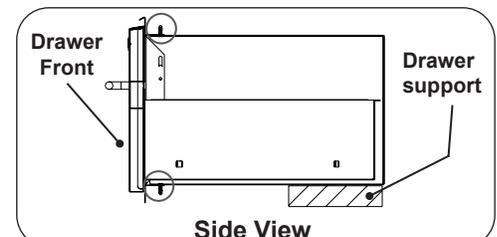

Fig. 2-6 Drawer Installation (Side View)
1. In order to properly support the weight of your drawer, it is necessary to provide a secure, level surface in the rear of the unit (see Fig 2-6). This may be accomplished by using bricks, 2 X 4's, etc. Be sure that the height of this rear support is 1/8" higher than that of the front opening support, so that your drawer sits level.